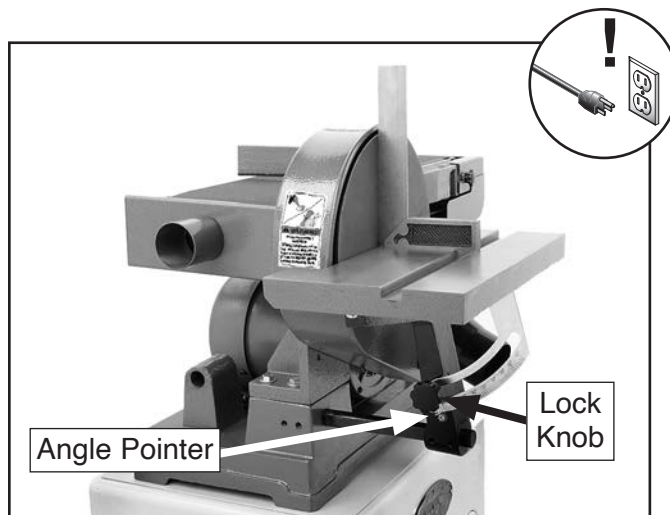

Figure 84. Using a machinist's square to adjust the work table to 90°.
2. Place a machinist's square or other 90° measuring tool against the work table and sanding belt/disc (see **Figure 84**).